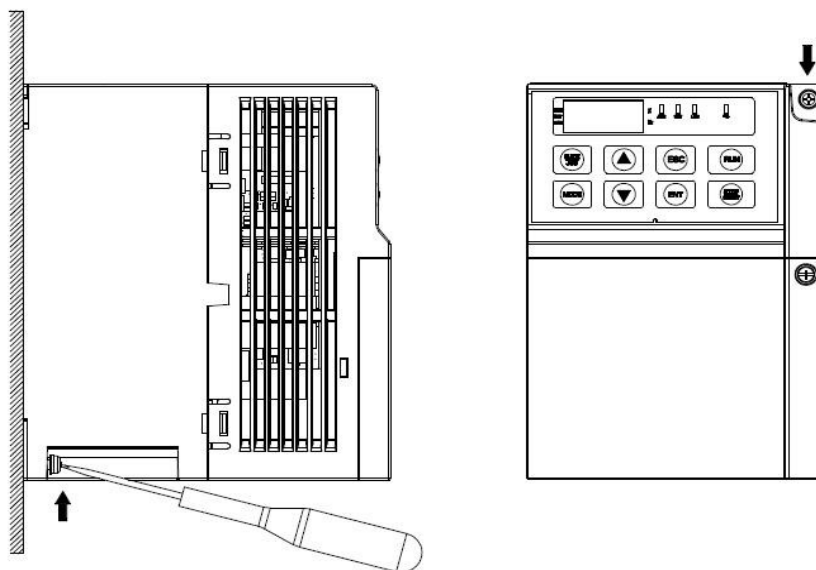

Figure 4.4 Installation method of VFD
- Refer to Figure 4.4 for confirmation of mounting holes on the VFD.